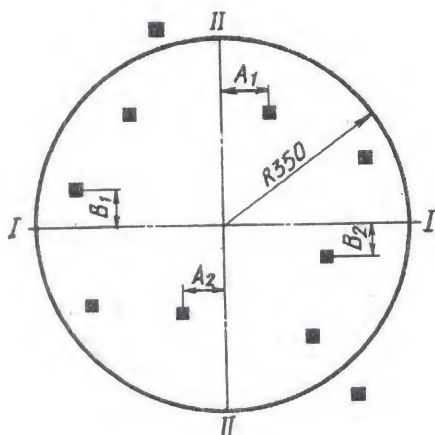

FIG. 140. DETERMINING MACHINE GUN КНБТ BURST MEAN IMPACT POINT AND CLOSE PATTERN
(p) determine the mean impact point (MIP) for the burst of each machine gun on the target. To determine the mean impact point (Figs 140 and 141), do the following:
3. After a satisfactory close pattern is attained, fire two more bursts of 10 shots of each machine gun. Use the data of three bursts of each machine gun, determine the close pattern of each burst, the mean impact point of each burst and the actual mean impact point of the three bursts for each machine gun (Figs 140, 141 and 142).
**Note.** When zeroing the turret mount machine guns on the vehicle which has run more than 15,000 km, it is allowed to increase the fire accuracy circle radius for machine gun KIBT to 160 mm and that for machine gun NKI to 70 mm. It is also permissible in this case to increase the close pattern circle radius (R-80) for machine gun KIBT to 400 mm and that for machine gun NKI to 200 mm (see Figs 140, 141 and 142).